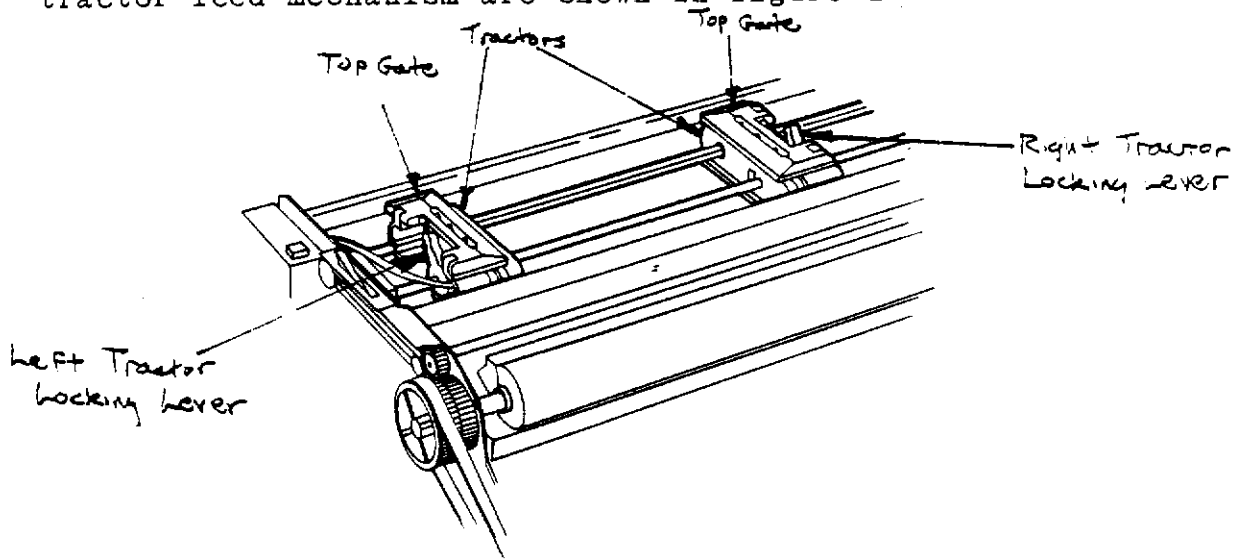

Figure 2-8. The Tractor Feed Mechanism.
Unlike many printers, the Tri Printer Model 40 has its forms tractor assembly already built in. The important features of the tractor feed mechanism are shown in figure 2-8.
3. Lift the tractor mechanism so that the bottom tractor gates are visible. See Figures 2-8 and 2-10. (NOTE: There are two sets of tractor gates - top and bottom.)